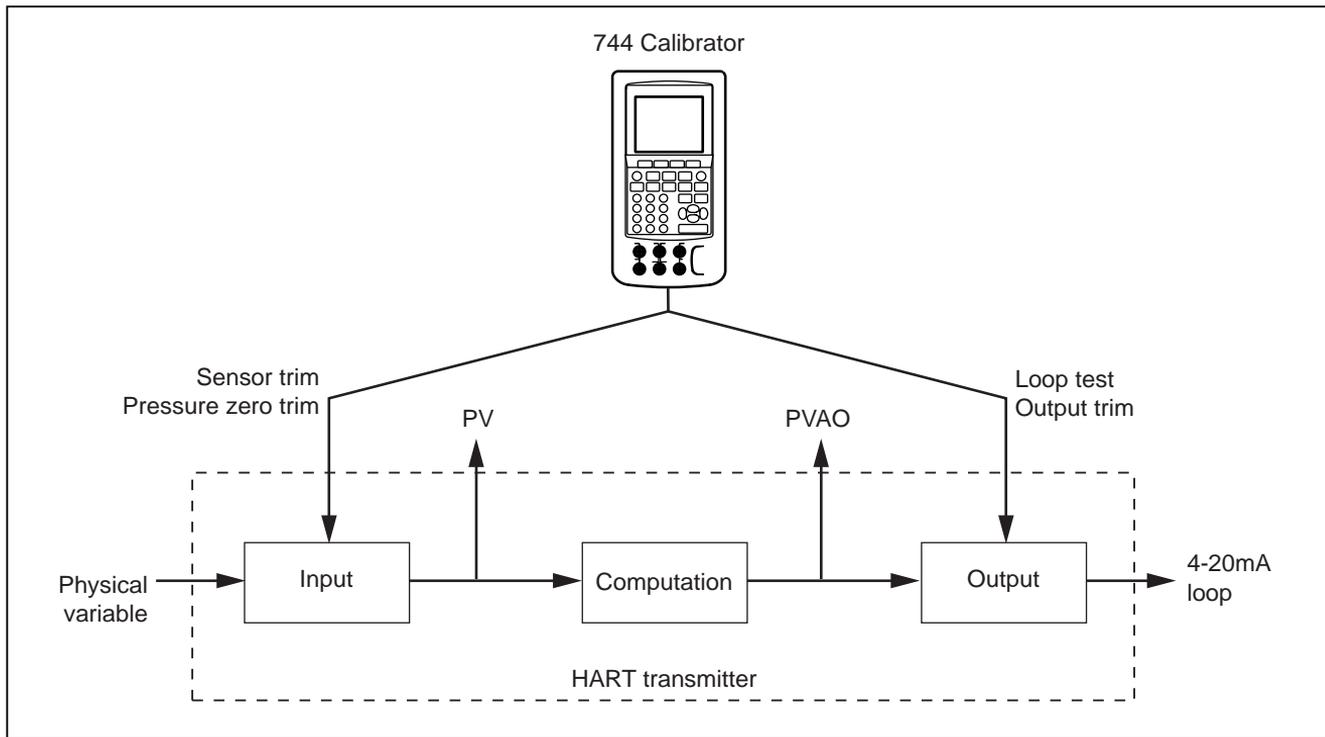

Figure 3. Block Diagram of a HART Transmitter
An analog transmitter has one stage of electrical conversion from a measured physical parameter to a 4-20 mA current loop output. A HART transmitter has the three stages shown in Figure 3.
3. You are presented with a set of choices for analog mode. Use the  and  keys to select one of the measure/source choices. This is where you select measure mA (analog output), or measure PV, which does not involve the Output stage of the transmitter. See Figure 3.